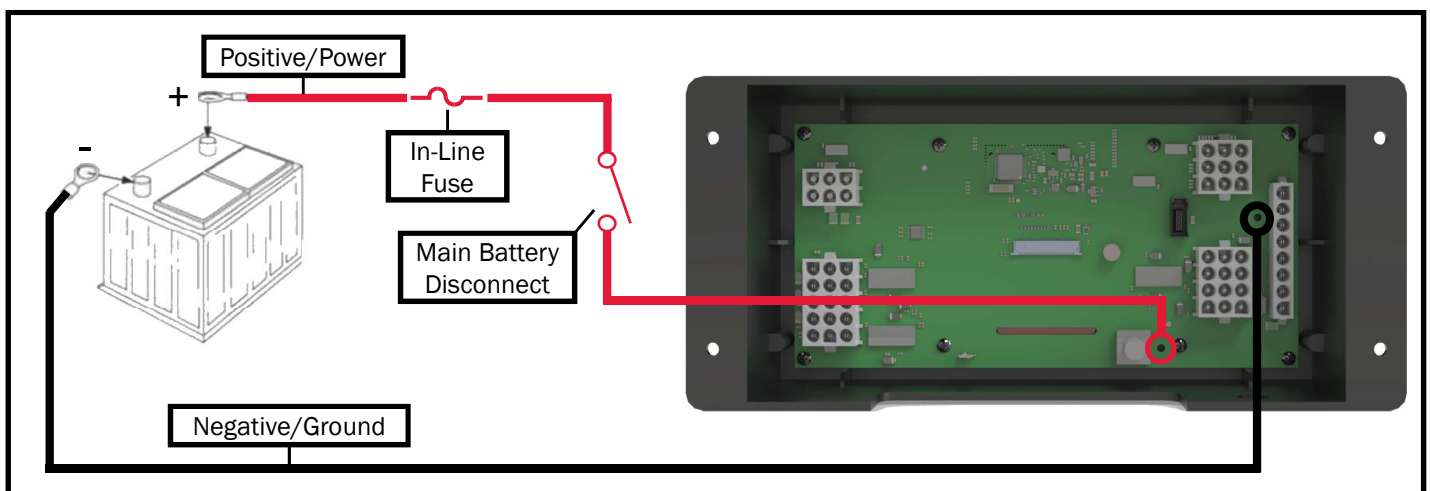

Figure 74
- Reference the schematics starting on page 46 and Figure 74.